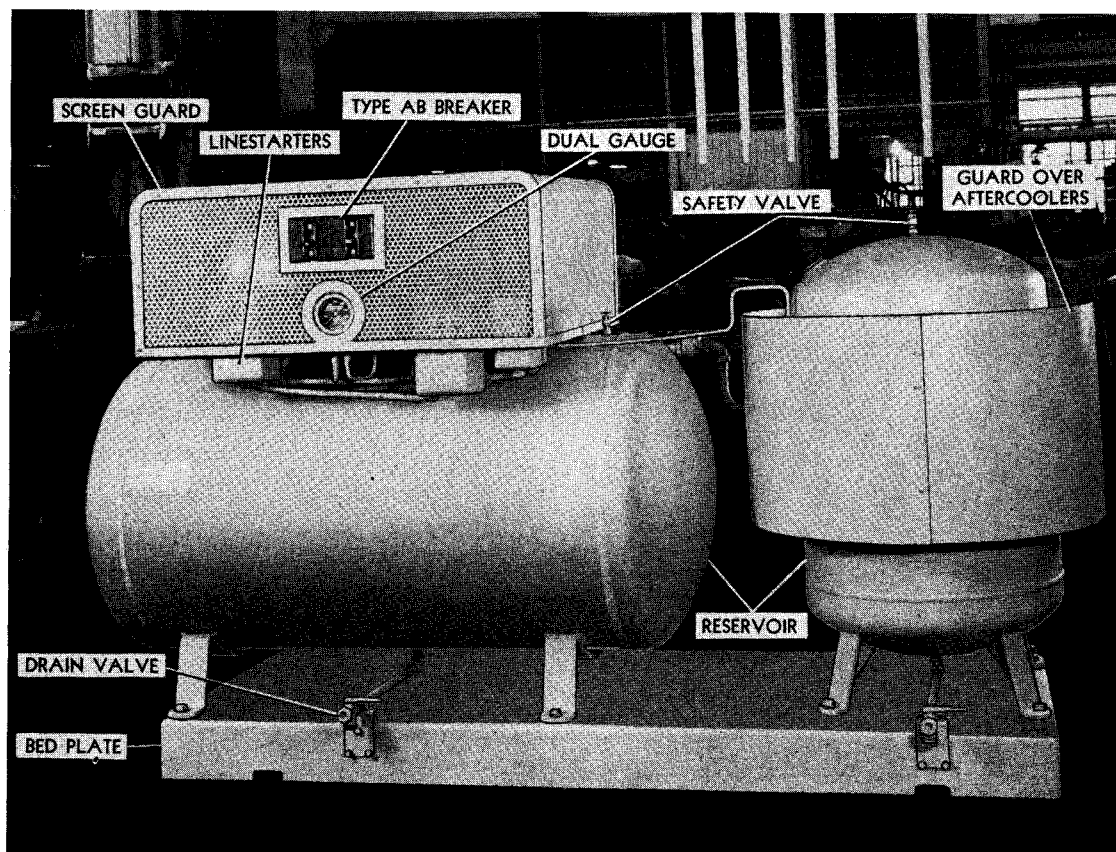

FIG. 2—COMPRESSED AIR SUPPLY UNIT WITH TWIN COMPRESSORS
- Fig. 2. Compressed Air Supply Unit with Twin Compressors.
The twin compressor unit carrying two smaller compressors as shown in Fig. 2, is normally supplied for installations of one or two breakers where there is little likelihood of future additions to the switching equipment. Storage volume is the same as for the single compressor unit but in this case the larger of the two reservoirs is arranged with its axis in a horizontal plane and both compressors are mounted on it. Operation may be by both compressors working in unison or by either one working alone, thus providing a spare compressor for use during maintenance periods.